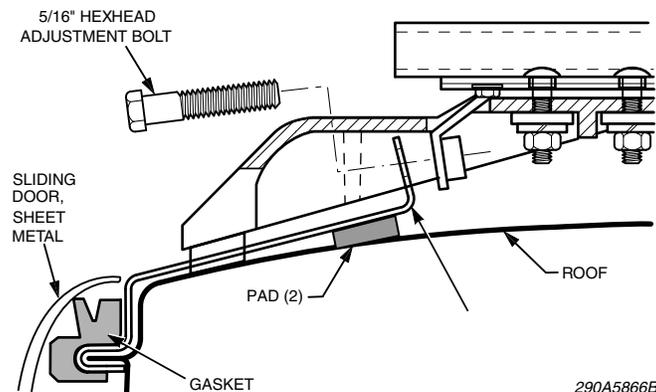

Figure 1: Lightbar attached to vehicle with hook kit
3. To protect the roof surface, peel the packing from the adhesive mounting pad and attach the pad to the bottom of the hook (Figure 1).